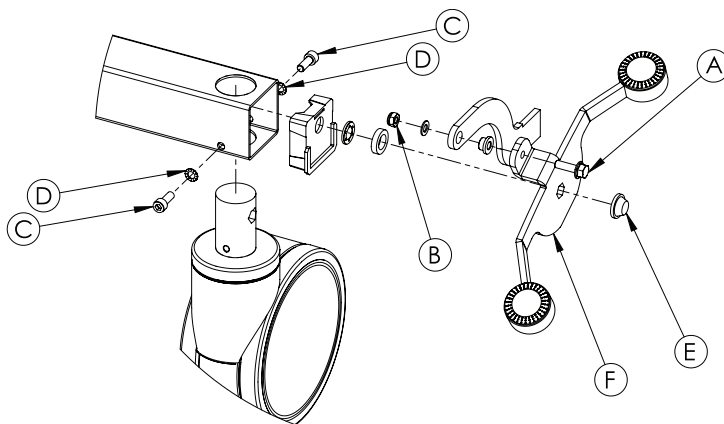

Figure 7: Steer (head left) caster
4. Using a 3/8 in. drive ratchet and 13 mm socket with a 13 mm combination wrench, remove and save the bolts (A) and nuts (B) on both sides of the brake pedal linkage of the head left steer caster (Figure 7 on page 54).
5. Using a 5 mm hex wrench, remove and save the two screws (C) that secures the head left steer caster to the base frame (Figure 7 on page 54).
6. Using a large flat screwdriver and a hammer, remove and discard the push nut (E) and washer (D) on the side of the head left steer caster (Figure 7 on page 54).
7. Remove the brake/steer pedal (F) (Figure 7 on page 54).